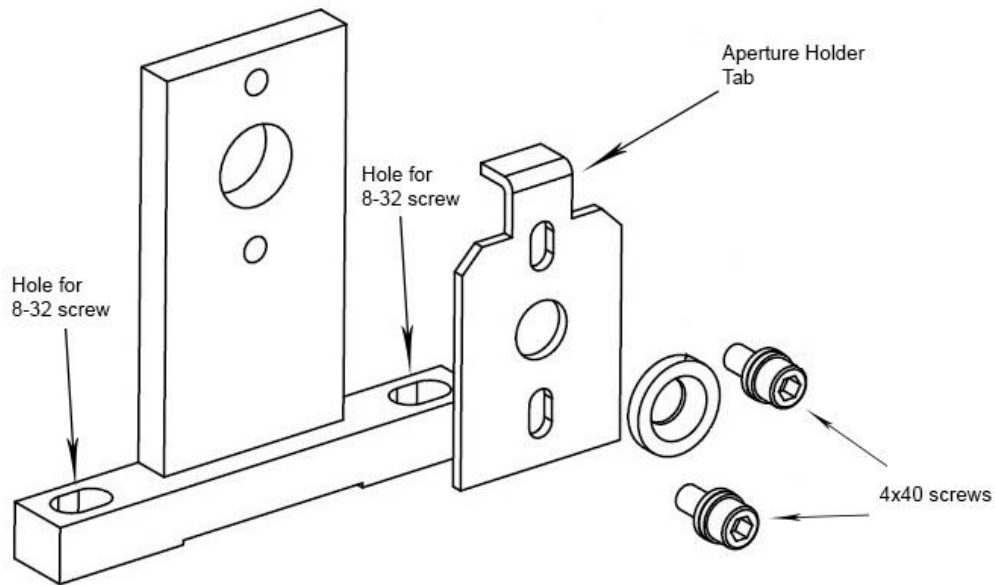

Figure 2-1: Aperture Assembly (AA21)
2. Install the aperture assembly in **Figure 2-1** to the laser bench with the (2) 8-32 fasteners and locking hardware. Center the mount to the screw locations. To allow adjustment, do not tighten the fasteners.